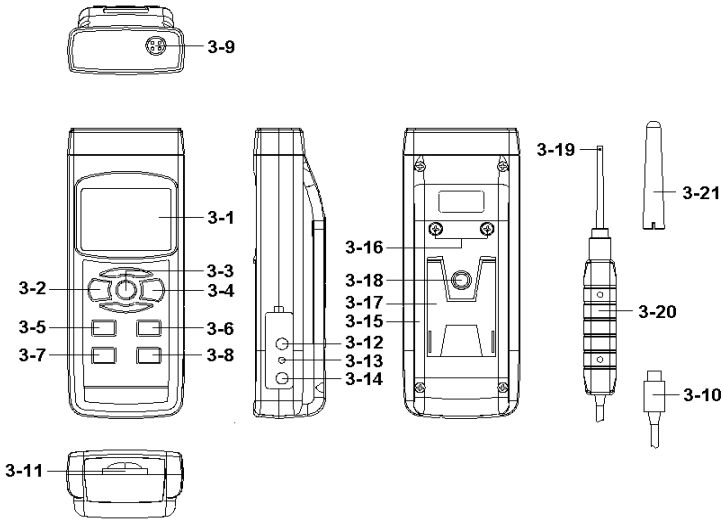

Fig. 1
- 1) Power ON the meter by pressing and holding the " Power Button " (3-2, Fig. 1)for at least 1.5 seconds .
- 2) magnetic field measurement Function 'DC' or 'AC' select by pressing and holding the " FUNCTION Button " (3-6, Fig. 1) until function DC change to AC or function AC change to DC.
- 3) magnetic field measurement range select by pressing and holding the " Range Button " (3-5, Fig. 1) until ' Range 1' change to' Range 2' or 'Range 2' change to' Range 1' .
- * Before the measurement, fix the probe at the exact position, by pressing and holding the "▲" (3-5 , Fig. 1) " & "▼" Button (3-6 , Fig. 1) continuously at least 1.5 seconds until the display show " 0 " value, in the same time the Display will show the " 0 " indicator then release the finger from the button.
During the measurement, press the " Hold Button " (3-3, Fig. 1) once will hold the measured value & the LCD will display a " HOLD " symbol.
1) The data record function records the maximum and minimum readings. Press the " REC Button " (3-4, Fig. 1) once to start the Data Record function and there will be a " REC " symbol on the display.
a) Press the " REC Button " (3-4, Fig. 1) once, the " REC. MAX " symbol along with the maximum value will appear on the display.
b) Press the " REC Button " (3-4, Fig. 1) again, the " REC. MIN " symbol along with the minimum value will appear on the display.
Prepare a " SD memory card " (1 G to 16 G, optional), insert the SD card into the " SD card socket " (3-11, Fig. 1). The front panel of the SD card should face against the the down case.
Press the " LOG Button (3-8, Fig. 1) > 1.5 seconds continuously, the LCD will show the text of " LOGGER " indicator and flashing per sampling time, at the same time the measuring data along the time information will be saved into the memory circuit.
During execute the Datalogger function, if press the " LOG Button " (3-8, Fig. 1) once will pause the Datalogger function (stop to save the measuring data into the memory circuit temporarily). In the same time the " LOGGER " symbol will stop flashing.
If press the " LOG Button " (3-8, Fig. 1) once again will execute the Datalogger again, the " LOGGER " symbol will flashing.
During execute the Datalogger function, press the " LOG Button (3-8, Fig. 1) > 1.5 seconds continuously again will finish the Datalogger function, the " LOGGER " text will be disappeared and finish the Datalogger function.
Press the " LOG Button (3-8, Fig. 1) > 1.5 second, the LCD will show the indicator " LOGGER " and " Position no. " symbol then press the " LOG Button " (3-8, Fig. 1) once , the " LOGGER " symbol will flashing once and Beeper will sound once at the same time the measuring data along the time information will be saved into the memory circuit .
During execute the Manual Datalogger, it can use the " ▲ Button " (3-5, Fig. 1) or " ▼ Button " (3-6, Fig. 1) to set the measuring position (1 to 99, for example room 1 to room 99) to identify the measurement location , the lower Display will show P x (x = 1 to 99).
During execute the Datalogger function, press the " LOG Button (3-8, Fig. 1) > 1.5 seconds continuously again will finish the Datalogger function, the Position no. " PXX " will be disappeared and finish the Datalogger. function.
During the normal measurement (not execute the Datalogger), If press " Time " (3-7, Fig. 1)) once , the LCD display will present the time information of Year/Month, Date/Hour, Minute/Second and the Sampling time information in sequence.